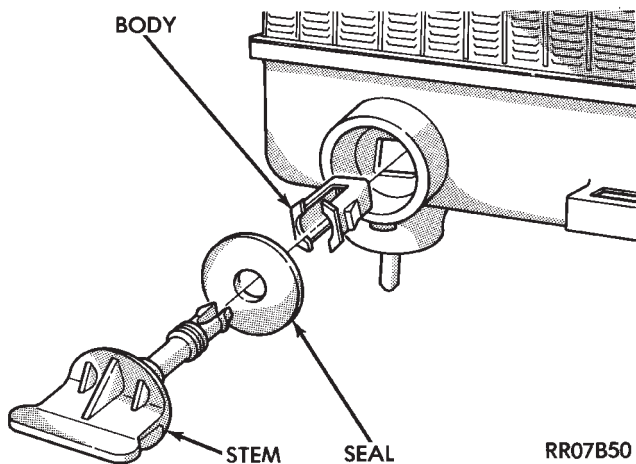

Fig. 44 Draincock Assembly
(1) Unscrew draincock stem (counterclockwise rotation). When stem is completely unscrewed, pull it from radiator tank and draincock body (Fig. 44).